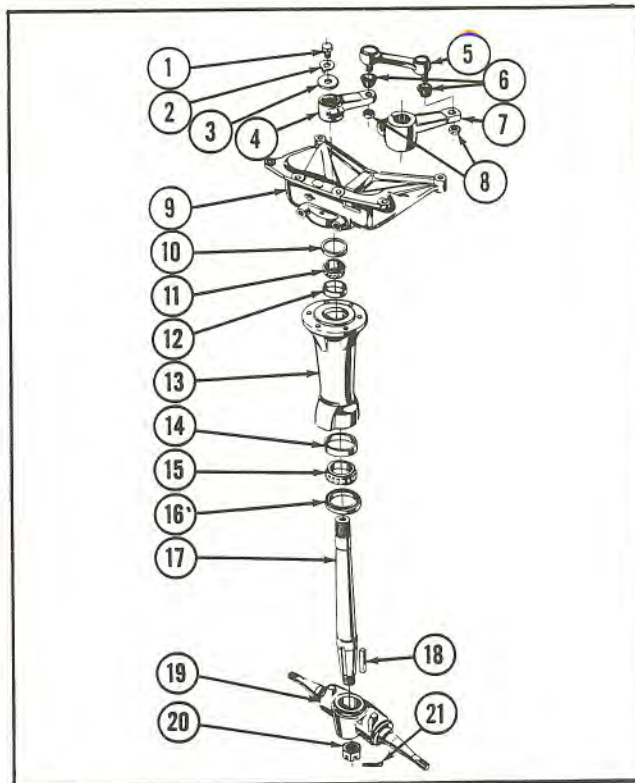

Fig. 10 - Twin Front Wheel Axle Nomenclature
2. Remove: (Refer to Fig. 10).
Remove: (Refer to Fig. 10)